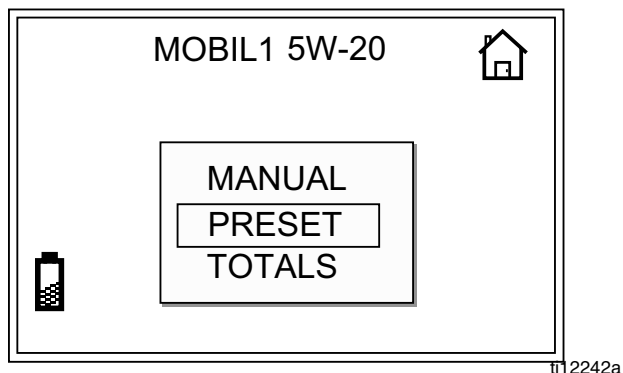

FIG. 24
1. From HOME screen, use the UP or DOWN ARROWS to select PRESET (FIG. 24).